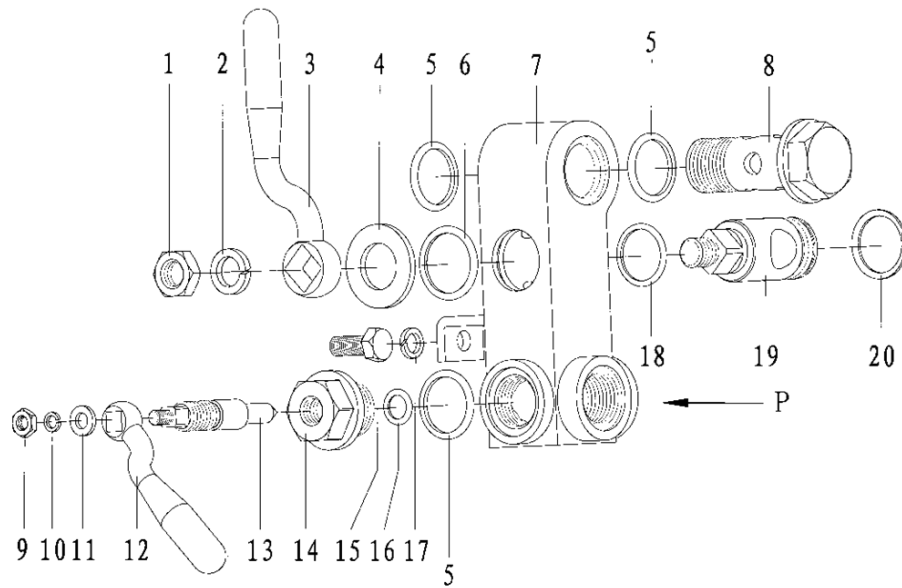

Fig 20
9.16 Lifting bucket valve(Fig.20,Table 16)